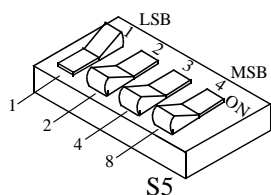

Figure 1-21 CIM S5 ALIGNMENT TONE
1. **In the CIM** set S5 as shown in Figure 1-21 to generate the alignment tone.
2. **In the CIM** set S5 as shown in Figure 1-21 to generate an alignment tone.